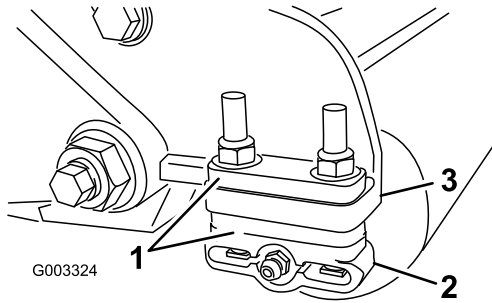

Figure 13
1. Adjust the rear roller brackets (Figure 13) to the desired height of cut range by positioning the required amount of spacers below the side plate mounting flange (Figure 13) per the HOC Chart.